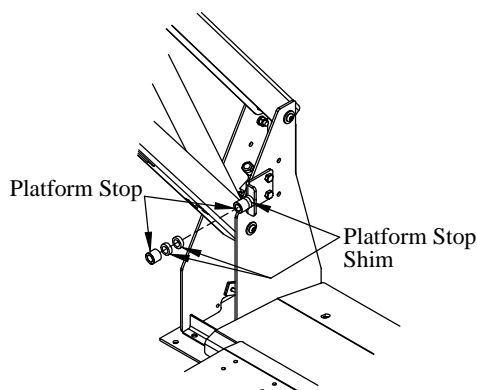

Figure 23: Platform stops.
3. **Check** if the platform loading surface is even with base plate cover (Figure 23).
4. **Position** the platform so that it is even with the top of the base plate cover (Figure 23).
Make sure to use the same number of shims in each side (Figure 23).